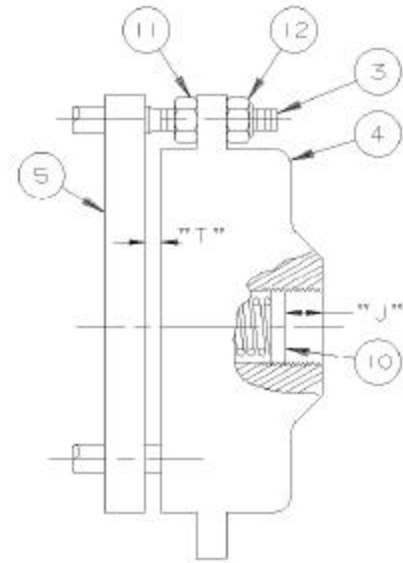

FIGURE 2.
5. Brake unit must be disassembled to mount. Remove cover (1) by removing four screws (13). **WARNING! Check dimension "J" for a .00 inch dimension, see FIGURE 2, page 4. If required, adjust spring plug (10) by turning with a 3/8 inch square socket extension for model DB-0 and a 1/2 inch square socket extension for models DB-2 and DB-4, to obtain a .00 inch dimension. This will reduce spring (8) force to prevent the magnet pot (4) from accidentally moving off the mounting studs (3) when removing the locknuts (12).** Remove three locknuts (12) from mounting studs (3). Remove magnet pot (4), three nuts (11), armature plate (5), and brake disc (6).
1. AIR GAP adjustment, dimension "T" FIGURE 2, must be maintained to allow the brake to release and prevent the loss of braking torque. Dimension "T" is measured between the surfaces of the magnet pot (4) and the armature plate (5) at three equal distance points (120 degrees apart) about the magnet pot (4). This dimension should be held at 0.032 inches and in no case allowed to exceed 0.12 inches.
2. BRAKE TORQUE adjustment, dimension "J" FIGURE 2, controls braking effort by changing the spring (8) pressure. Increasing dimension "J" increases brake torque and decreasing "J" decreases brake torque. Brake nameplate located on the brake unit cover shows the "Minimum", "Maximum" and "Set" dimensions for brake torque. The "Minimum" dimension is the smallest dimension that the brake can be set at to obtain the least braking torque. The "Maximum" dimension is the largest dimension